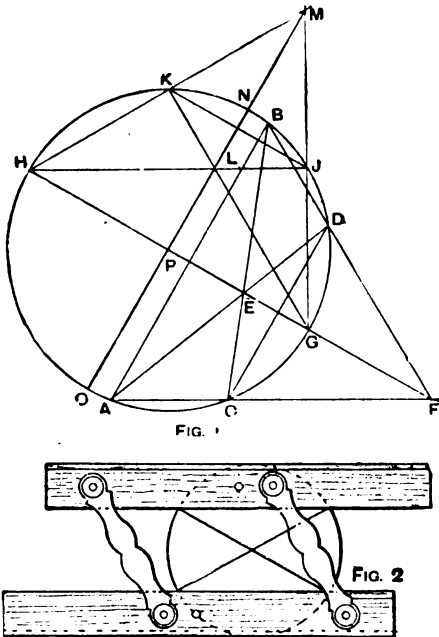
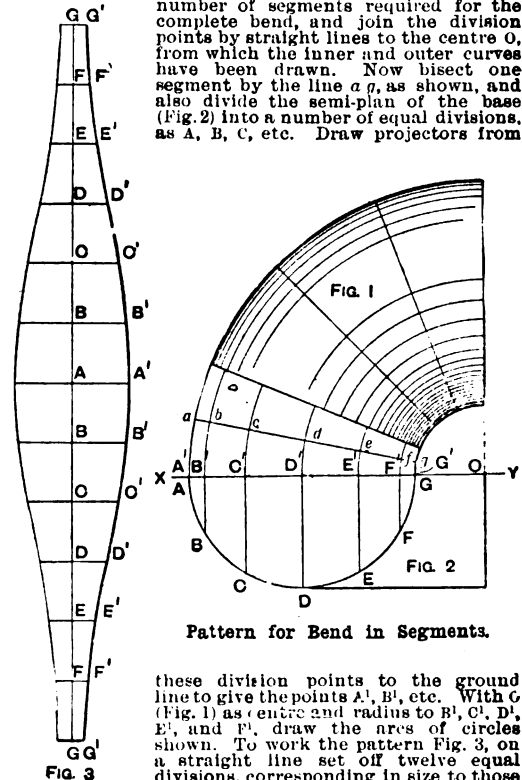

FIG. 1
FIG. 2
**Music Cabinet.**—Accompanying this are the necessary working drawings, fully dimensioned, of a music cabinet that can be constructed of walnut. Fig. 1 is a vertical section of the cabinet; Fig. 2 is a cross section; Fig. 3 is a horizontal section; Fig. 4 is an enlarged plan of the corner of the bottom; Fig. 5 is a detail of D (Fig. 1); Fig. 6 shows the method of hingeing the drawer fronts; whilst Figs. 7 and 8 show an elevation and section of the top of the cupboard. From the drawings it may be seen that the standard size of portfolio music (14 in. by 10 in.) is taken as a basis for the construction. Set out the plan, full size, as shown in Fig. 3,
the inside dimension of the drawer being 1 ft. 4 in. by 10 in., the drawer sides  $\frac{1}{4}$  in., and the case sides and division  $\frac{1}{4}$  in. thick. The cupboard is 8 in. in the clear, the outside size 2 ft. 2 in., and the depth 1 ft. 0 in. The height over all is 3 ft., the plinth being 6 in. high, and the moulded top made up to 2 in. thick. Having set out the heights of the plinth and top, mark the bottom so that its lower edge is covered  $\frac{1}{4}$  in. by the plinth, and the rail B, Fig. 2,  $\frac{1}{4}$  in. thick,  $\frac{1}{4}$  in. under the moulding at the top. Then divide the intervening space into six equal parts for the drawer divisions, which are  $\frac{1}{4}$  in. thick, all framed and panelled with the exception of the one under the cupboard, which must be solid. All the divisions are grooved in  $\frac{1}{4}$  in., the rail B being stub-tongued as shown in Fig. 5. The top is made of  $\frac{1}{4}$ -in. board, overhanging the carcass 1 in., and either blocked or buttoned thereto, as shown in Fig. 5. The moulded edging is mitred and glued in the rebate formed by the top and sides. The shaped rail A (Figs. 1 and 7) is grooved and glued into the standards. The sides run 2 in. below the plinth and rest on  $\frac{1}{4}$ -in. blocks C (Fig. 2) glued in the angles of the plinth, which may be fitted with castors if desired; the back is a  $\frac{1}{4}$ -in. panelled frame. The drawers, if fitted with tilting fronts, would be made as shown in Fig. 6, the backs being dovetailed to the sides, and the bottom grooved in as usual, with the exception of the front edge. Before setting out the drawers the bracket pivots should be obtained, as they vary in length. To find how much to bevel the drawer sides,
the centre of a circle with only a pencil and parallel ruler—an ordinary ruler will answer if it is accurate and not too narrow. First draw the two parallel chords A B and C D (see Fig. 1); then through their extremities draw the two pairs of lines which intersect in E and F respectively. A line through E and F gives a diameter G H, and therefore contains the centre. When drawing this line, draw also the chord J K parallel to it; and then proceed as before to obtain the line L M, which gives another diameter N O. The intersection P of the two diameters is the required centre. Of course, two fresh chords might be taken to obtain the second diameter, but by using the diameter H G and a parallel chord the number of lines is reduced, and all possibility of obliquity at the centre is avoided. If a linked parallel ruler is obtainable a much simpler method can be adopted. Open the ruler until the outer edges become tangential to the circle (see Fig. 2). Then with the inner edges draw two chords across the circle. These chords will be equal and parallel, and if their extremities are connected by lines as shown, the intersection point is the required centre. There are limitations to this method; if the circle is very large the extended ruler will not reach across, and if it is very small the two chords will be too close together.
**Pattern for Pipe Bend in Segments.**—To obtain the pattern for a pipe bend in segments, draw a side elevation and plan, as Figs. 1 and 2. Then divide the outer curve of the bend into a number of equal parts, corresponding to the number of segments required for the complete bend, and join the division points by straight lines to the centre O, from which the inner and outer curves have been drawn. Now bisect one segment by the line a g, as shown, and also divide the semi-plan of the base (Fig. 2) into a number of equal divisions, as A, B, C, etc. Draw projectors from
these division points to the ground line to give the points A', B', etc. With C (Fig. 1) as centre and radius to B', C', D', E', and F', draw the arcs of circles shown. To work the pattern Fig. 3, on a straight line set off twelve equal divisions, corresponding in size to those round the semicircle A B C, etc. (Fig. 2).
Through each of these divisions, A, B, C, etc., on the pattern draw lines at right angles to and on both sides of the centre stripe G G'. If the seams are to occur at the throat of the bend, take the distance G' g from Fig. 1, and mark off on each side of the centre line on the pattern at the top and bottom ends; then take F' f from the elevation and transfer to the next division to G on the pattern. Take the remaining divisions F' e, D' d, etc., from the elevation, and transfer these in the order shown to the pattern. A curve drawn through the points A', B', C', etc., on each side of the pattern would complete the figure. Allowances for lap at the seams and also along one curved side must be added in proportion as shown.